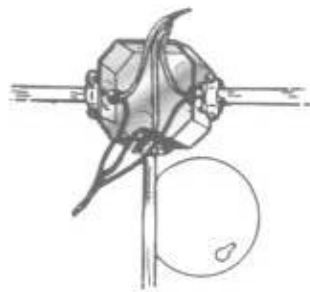

Fig. 10-11 A junction box contains only the splices of several lengths of cable.
**Junction boxes** Sometimes it is necessary to make a T connection in cable when there is a long run and no convenient outlet from which to start the T branch. Use an outlet box; run the three (or more) ends of cable into it; splice all black wires together and all white wires together; cover with a blank cover as shown in Fig. 9-4A, and the job is finished. A junction box is shown in Fig. 10-11. *Remember: Junction boxes must always be located where permanently accessible.*